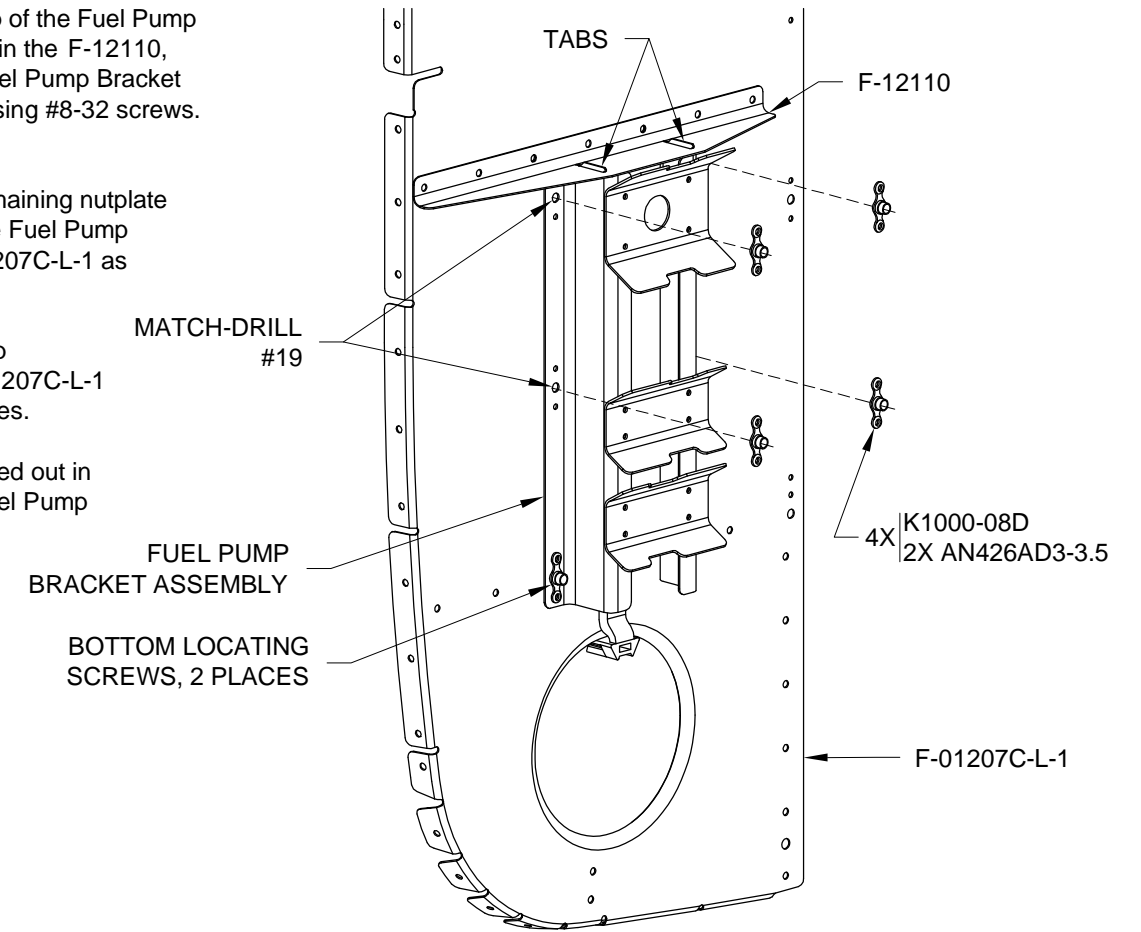

FIGURE 3: MATCH-DRILLING THE F-01207C-L-1
Step 9: Insert the tabs at the top of the Fuel Pump Bracket Assembly into the slots in the F-12110, and secure the bottom of the Fuel Pump Bracket Assembly to the F-1207C-L-1 using #8-32 screws. See Figure 3.
Step 10: Match-Drill the four remaining nutplate screw holes in the flanges of the Fuel Pump Bracket Assembly into the F-01207C-L-1 as indicated in Figure 3.
Step 12: Rivet the nutplates called out in Figure 3 to the flanges of the Fuel Pump Bracket Assembly.